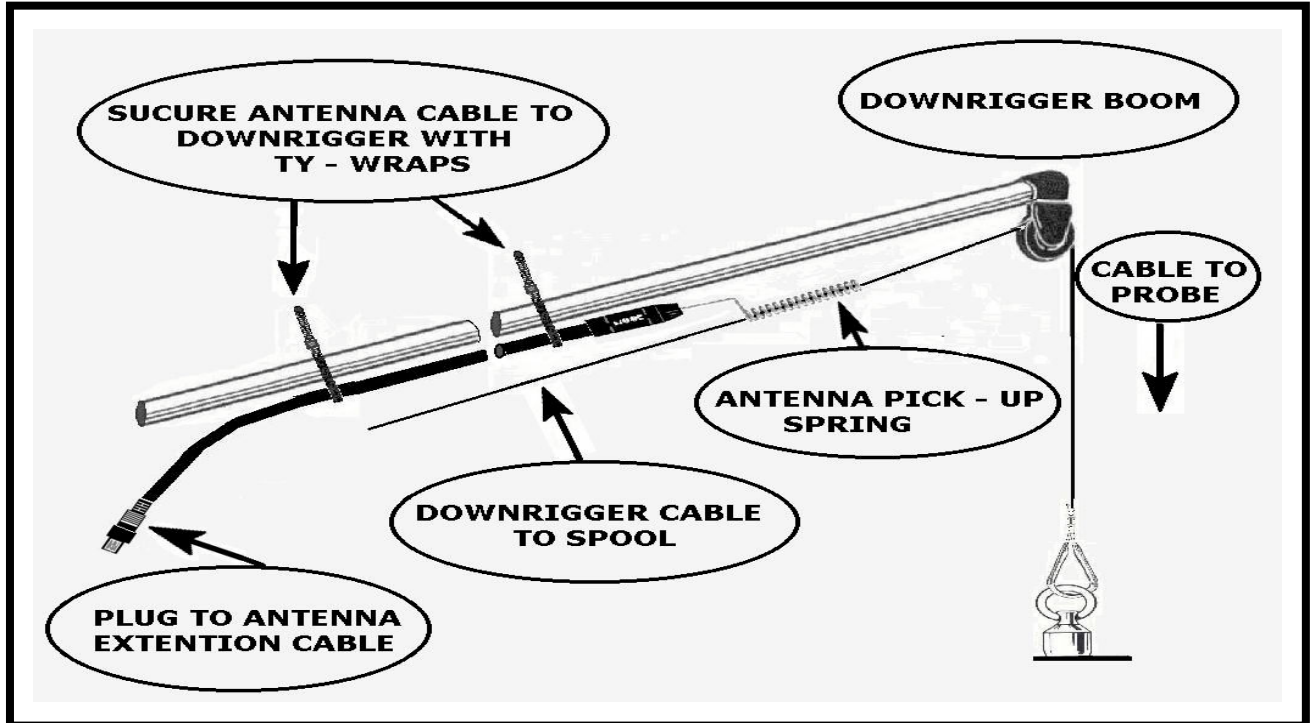

FIG. 3 ANTENNA INSTALLATION
STEP 4. ANTENNA INSTALLATION (See Figure 3)